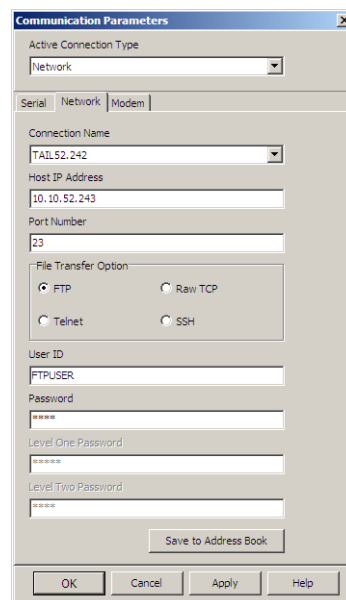

Figure 3.3 Network Communication Parameters Dialog Box
Step 5. For network communications, check the **Use Network** check box and enter the network parameters as shown in *Figure 3.3*.